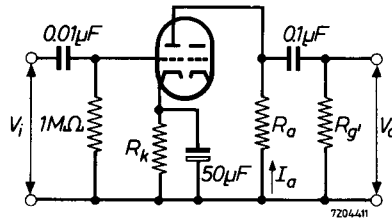

Fig. 1
A.F. amplifier - circuit fig. 1
A.F. amplifier - circuit fig.1 (continued)